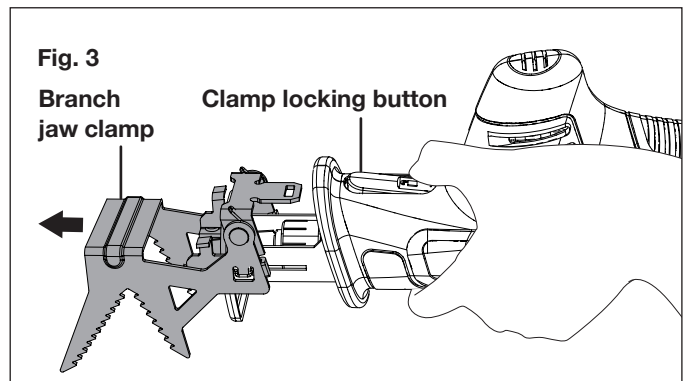

Fig. 3
2. It's recommended to remove the branch jaw clamp before assembly. Press the end of the clamp locking button and at the same time pull out the branch jaw clamp from the saw (Fig. 3).
5. To remove the branch jaw clamp, press the end of the clamp locking button and at the same time pull out the branch jaw clamp from the saw (Fig. 3).